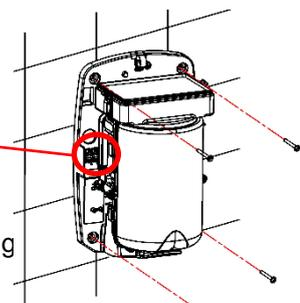

Figure 6.
- Firmly screw the base of the device to the wall (Figure 6), ensuring they are correctly placed between the base and the wall.